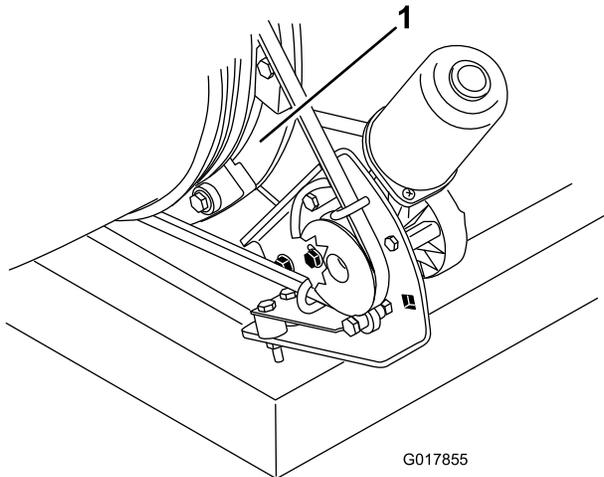

Figure 38
2. Remove any grass, dirt or debris buildup around and in between the nozzle guides (Figure 38).